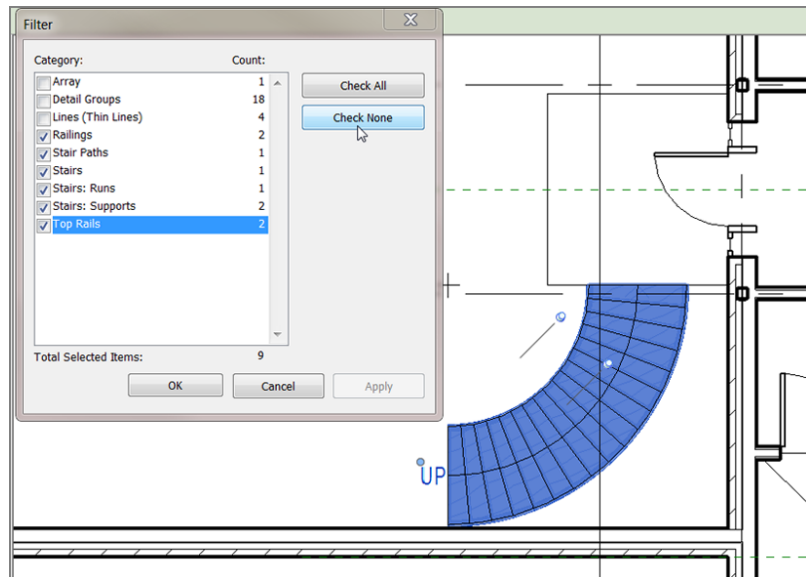

FIGURE 10.47: Selecting the items to be mirrored
2. Select the stairs and the railings, as shown in Figure 10.47.